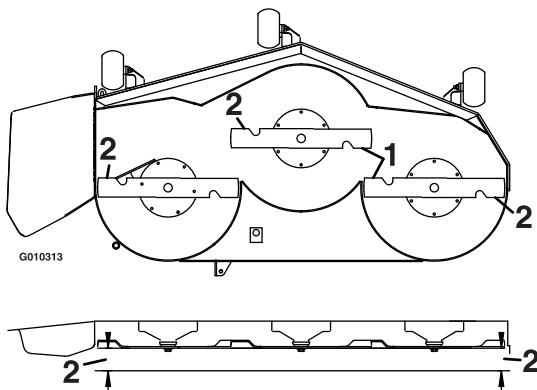

Figure 23
6. Measure between the outside cutting edges and the flat surface (Figure 23). If both measurements are not within 3/16 inch (5 mm), an adjustment is required; continue with this procedure.
9. Carefully rotate the blades side to side (Figure 23).